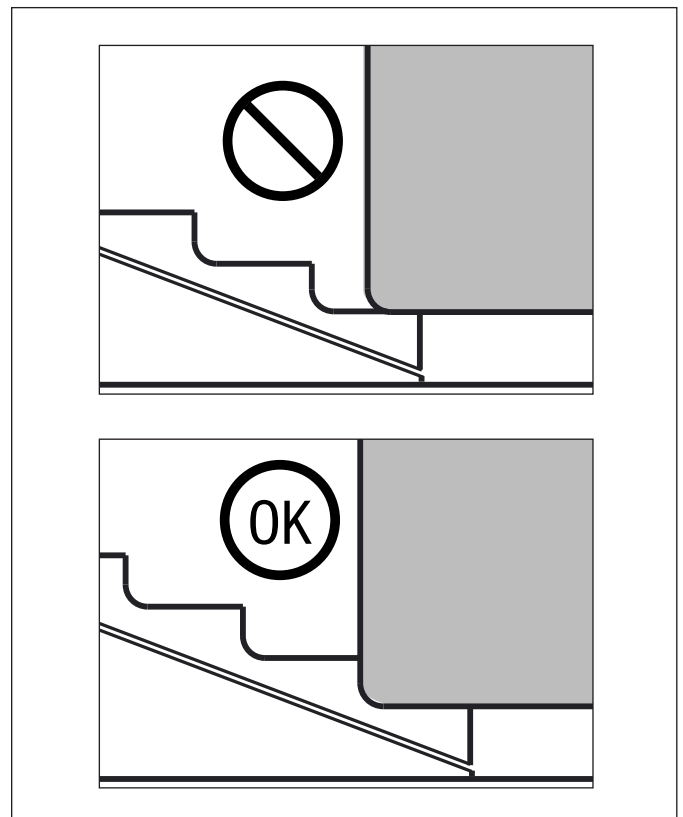

Figure 3, Inserting Wedge Under Load
4. Place the lifting wedge under the center of the item to be lifted. The lifting jaw contains a series of steps. The step to be used must be fully inserted into the access gap so that the heel of the step is in contact with the outer surface of the item to be lifted. Refer to Figure 3.
5. Place the lifting wedge under the center of the item to be lifted. The lifting jaw contains a series of steps. The step to be used must be fully inserted into the access gap so that the heel of the step is in contact with the outer surface of the item to be lifted. Refer to Figure 3.